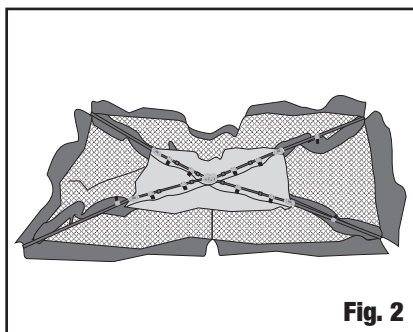

Fig. 2
- Unfold the arms of the screenhouse downward until they lay flat on the ground. (Fig. 2)